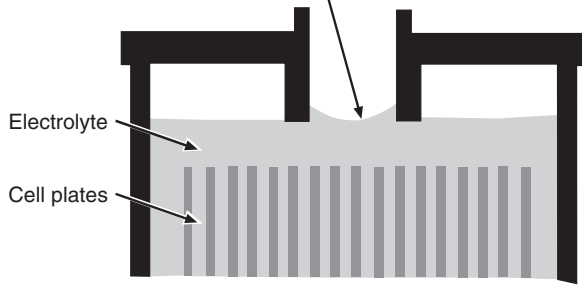

Figure 3-4. Correct battery cell fill level.
Lastly, check your engine's battery, and top up the cells as needed. See Figure 3-4.
**Battery.** Next, check and clean all battery-cable connections and battery tops. Coat the terminals with a corrosion inhibitor, such as Boeshield T-9. Dry-film corrosion inhibitors work very well and, unlike grease, which was a traditional choice for this application, will not overheat and melt. They actually turn into a liquid and penetrate between the clamp and post, and eventually act as an insulator. Then top off the cells of the battery to the level indicated in Figure 3-4. Finally, make sure the battery is fully charged before putting the boat in storage. Trickle-charging during the storage period (three to four months) should not be necessary.